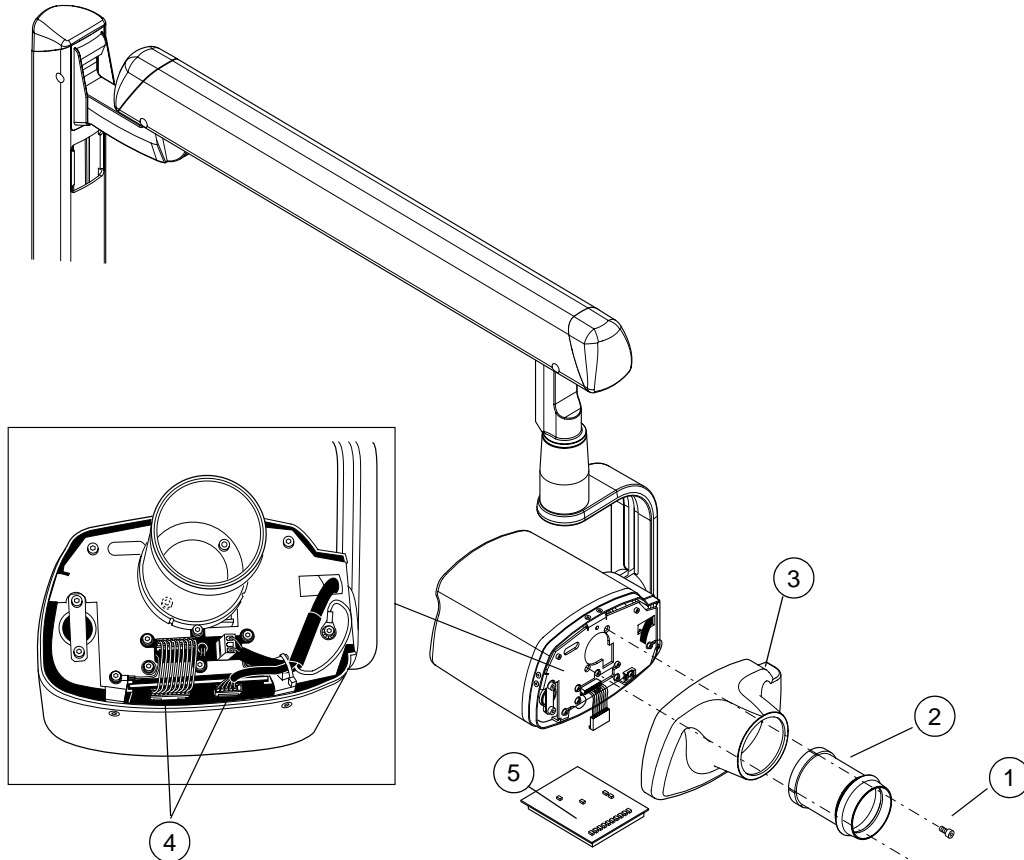

Figure 7
- a) Unscrew the two M4x20 DIN 7984 fastening screws (Fig. 7, 1) of the cone (Fig. 7, 2) (inside the cone).
- b) Remove the tube head front cover (Fig. 7, 3) and the cone.
- c) Disconnect the two connectors from the tube head PCB (Fig. 7, 4).
- d) Pull the tube head PCB (Fig. 7, 5) from the tube head.